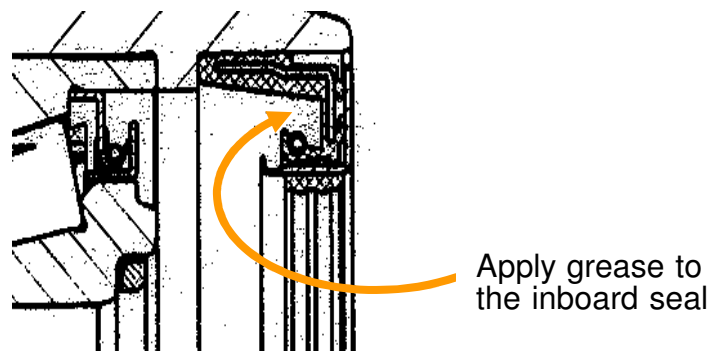

Figure 2
6. Apply grease to the seal. (As shown in figure 2)